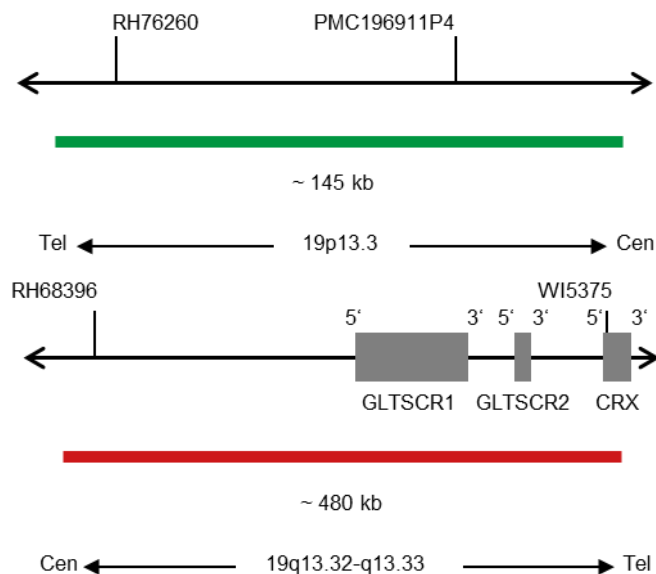

Fig. 1: Top: SPEC 19p13 Probe map; Bottom: SPEC 19q13 Probe map (not to scale)
- Digoxigenin-labeled polynucleotides (~0.8 ng/μl), which target sequences mapping in 19p13.3* (chr19:815,938-962,244) (see Fig. 1).
- Dinitrophenyl-labeled polynucleotides (~0.8 ng/μl), which target sequences mapping in 19q13.32-q13.33* (chr19:47,857,776-48,339,398) (see Fig. 1).